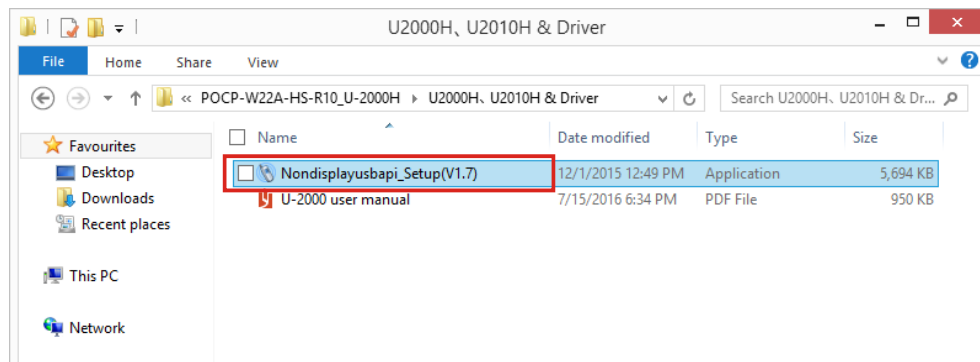

Figure 3-7: Handset Driver Folder
Step 2: Select **Other** from the list of the driver CD. Double click the setup file in the **POCP-W22A-HS-R10_U-2000H** folder to install the handset driver (**Figure 3-7**).